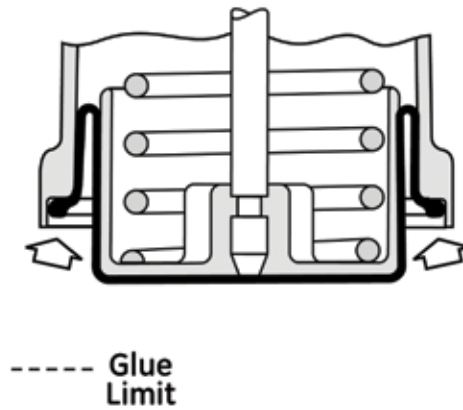

Figure 10
3. Roll the diaphragm carefully inside the spring barrel (103) until the bead engages the spring barrel lip. Press the bead lightly and evenly to make the two Neoprene-coated parts stick together. Check that there is no twisting of diaphragm inside spring barrel (see Figure 10).